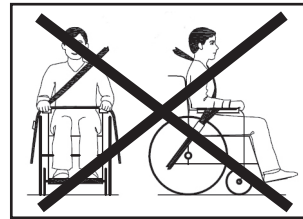

Figure 5
- The belt must not come into contact with components of the wheelchair (such as armrests or wheels) in such a way that it does not fully support the occupant's body (see Figure 5).